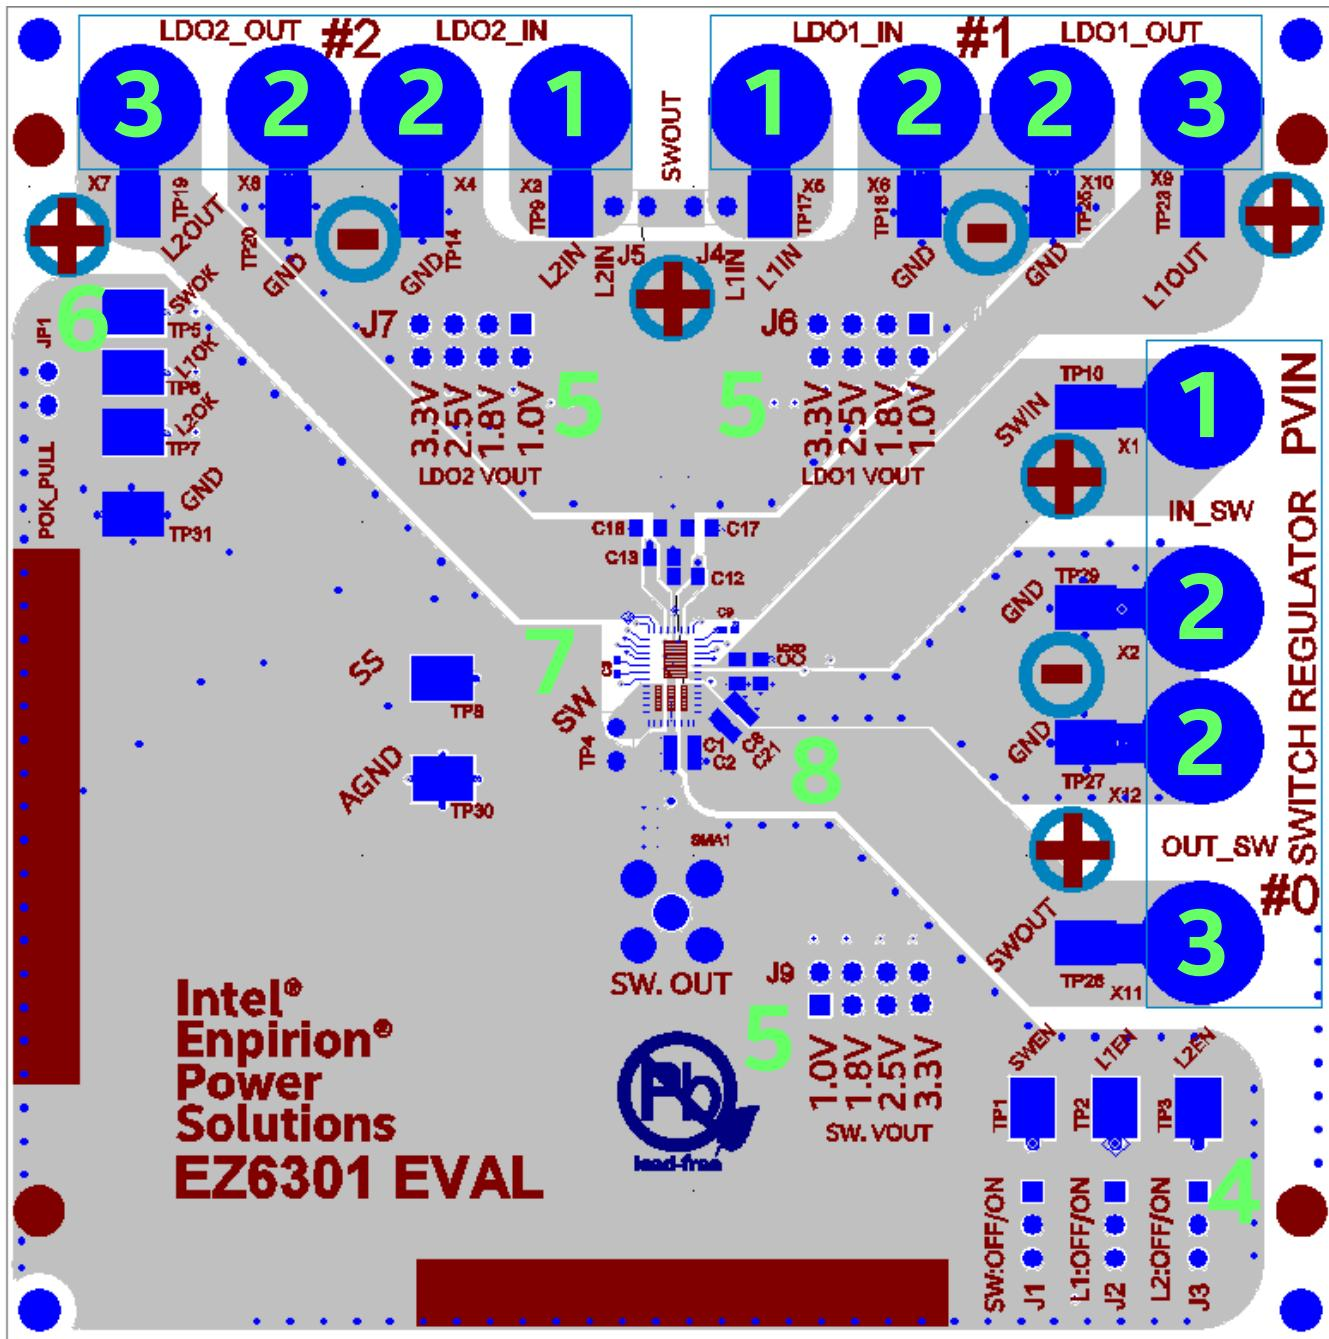

Figure 1: Evaluation Board (EVB) Features (Top View)
**NOTE A:** The EZ6301QI Evaluation Board is shown in Figure 1 with the important features numbered.
**NOTE B:** The following instructions will directly correlate with the numbers shown in Figure 1.